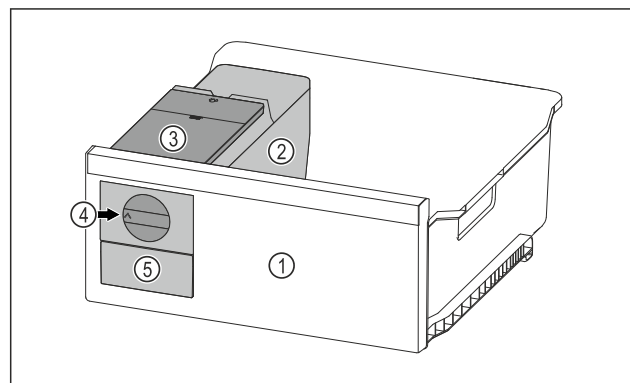

Fig. 125 Example illustration
- Turn the rotary knob Fig. 125 (4) clockwise as far as it will go.
- ▷ Ice cubes fall from the ice cube tray into the ice cube drawer Fig. 125 (5).